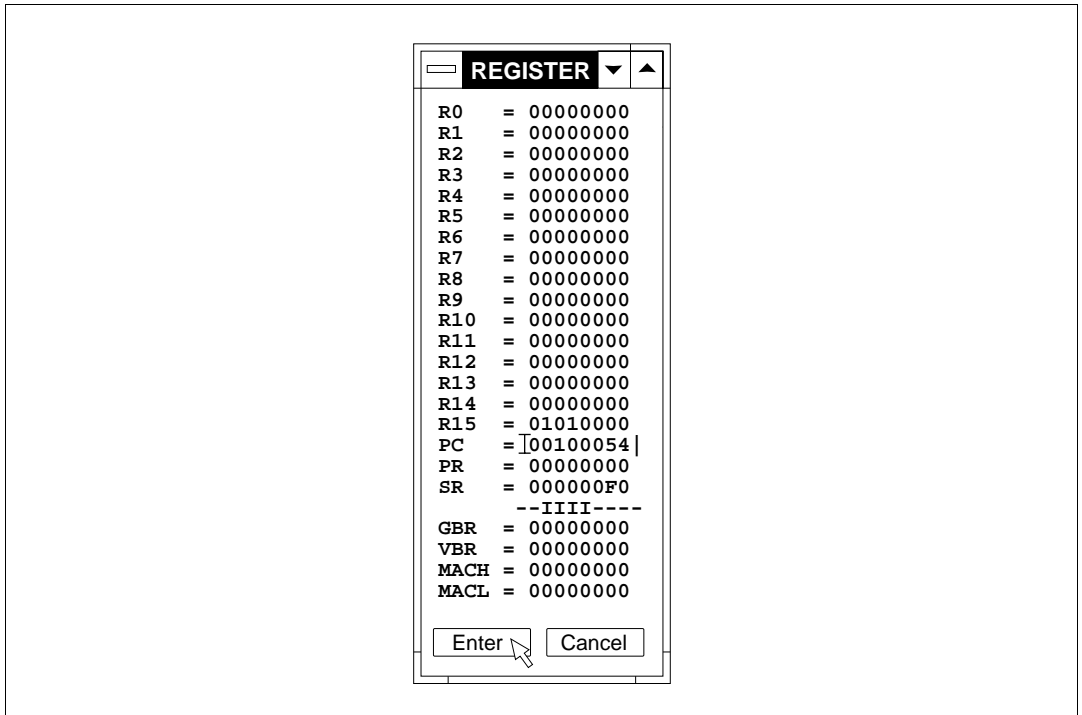

Figure 4-13 Example of Setting Registers with [Register] Command
Before executing the user program, the program counter (PC) and stack pointer (SP) must be set. The PC and SP can be set with the [Register] command in the View menu. They can also be set or modified by entering an emulator command in the command area. An example of register modification is shown in figure 4-13.
- (1) Select the [Register] command in the View menu. The register window as shown in figure 4-13 will appear.
- (2) Place the mouse pointer over the hexadecimal data for the PC and click to display the character-insertion cursor (|).
- (3) Enter data from the keyboard.
- (4) Enter data for the SP (R15) in the same way if necessary.
- (5) Click the <Enter> button to set the modified values in the registers.